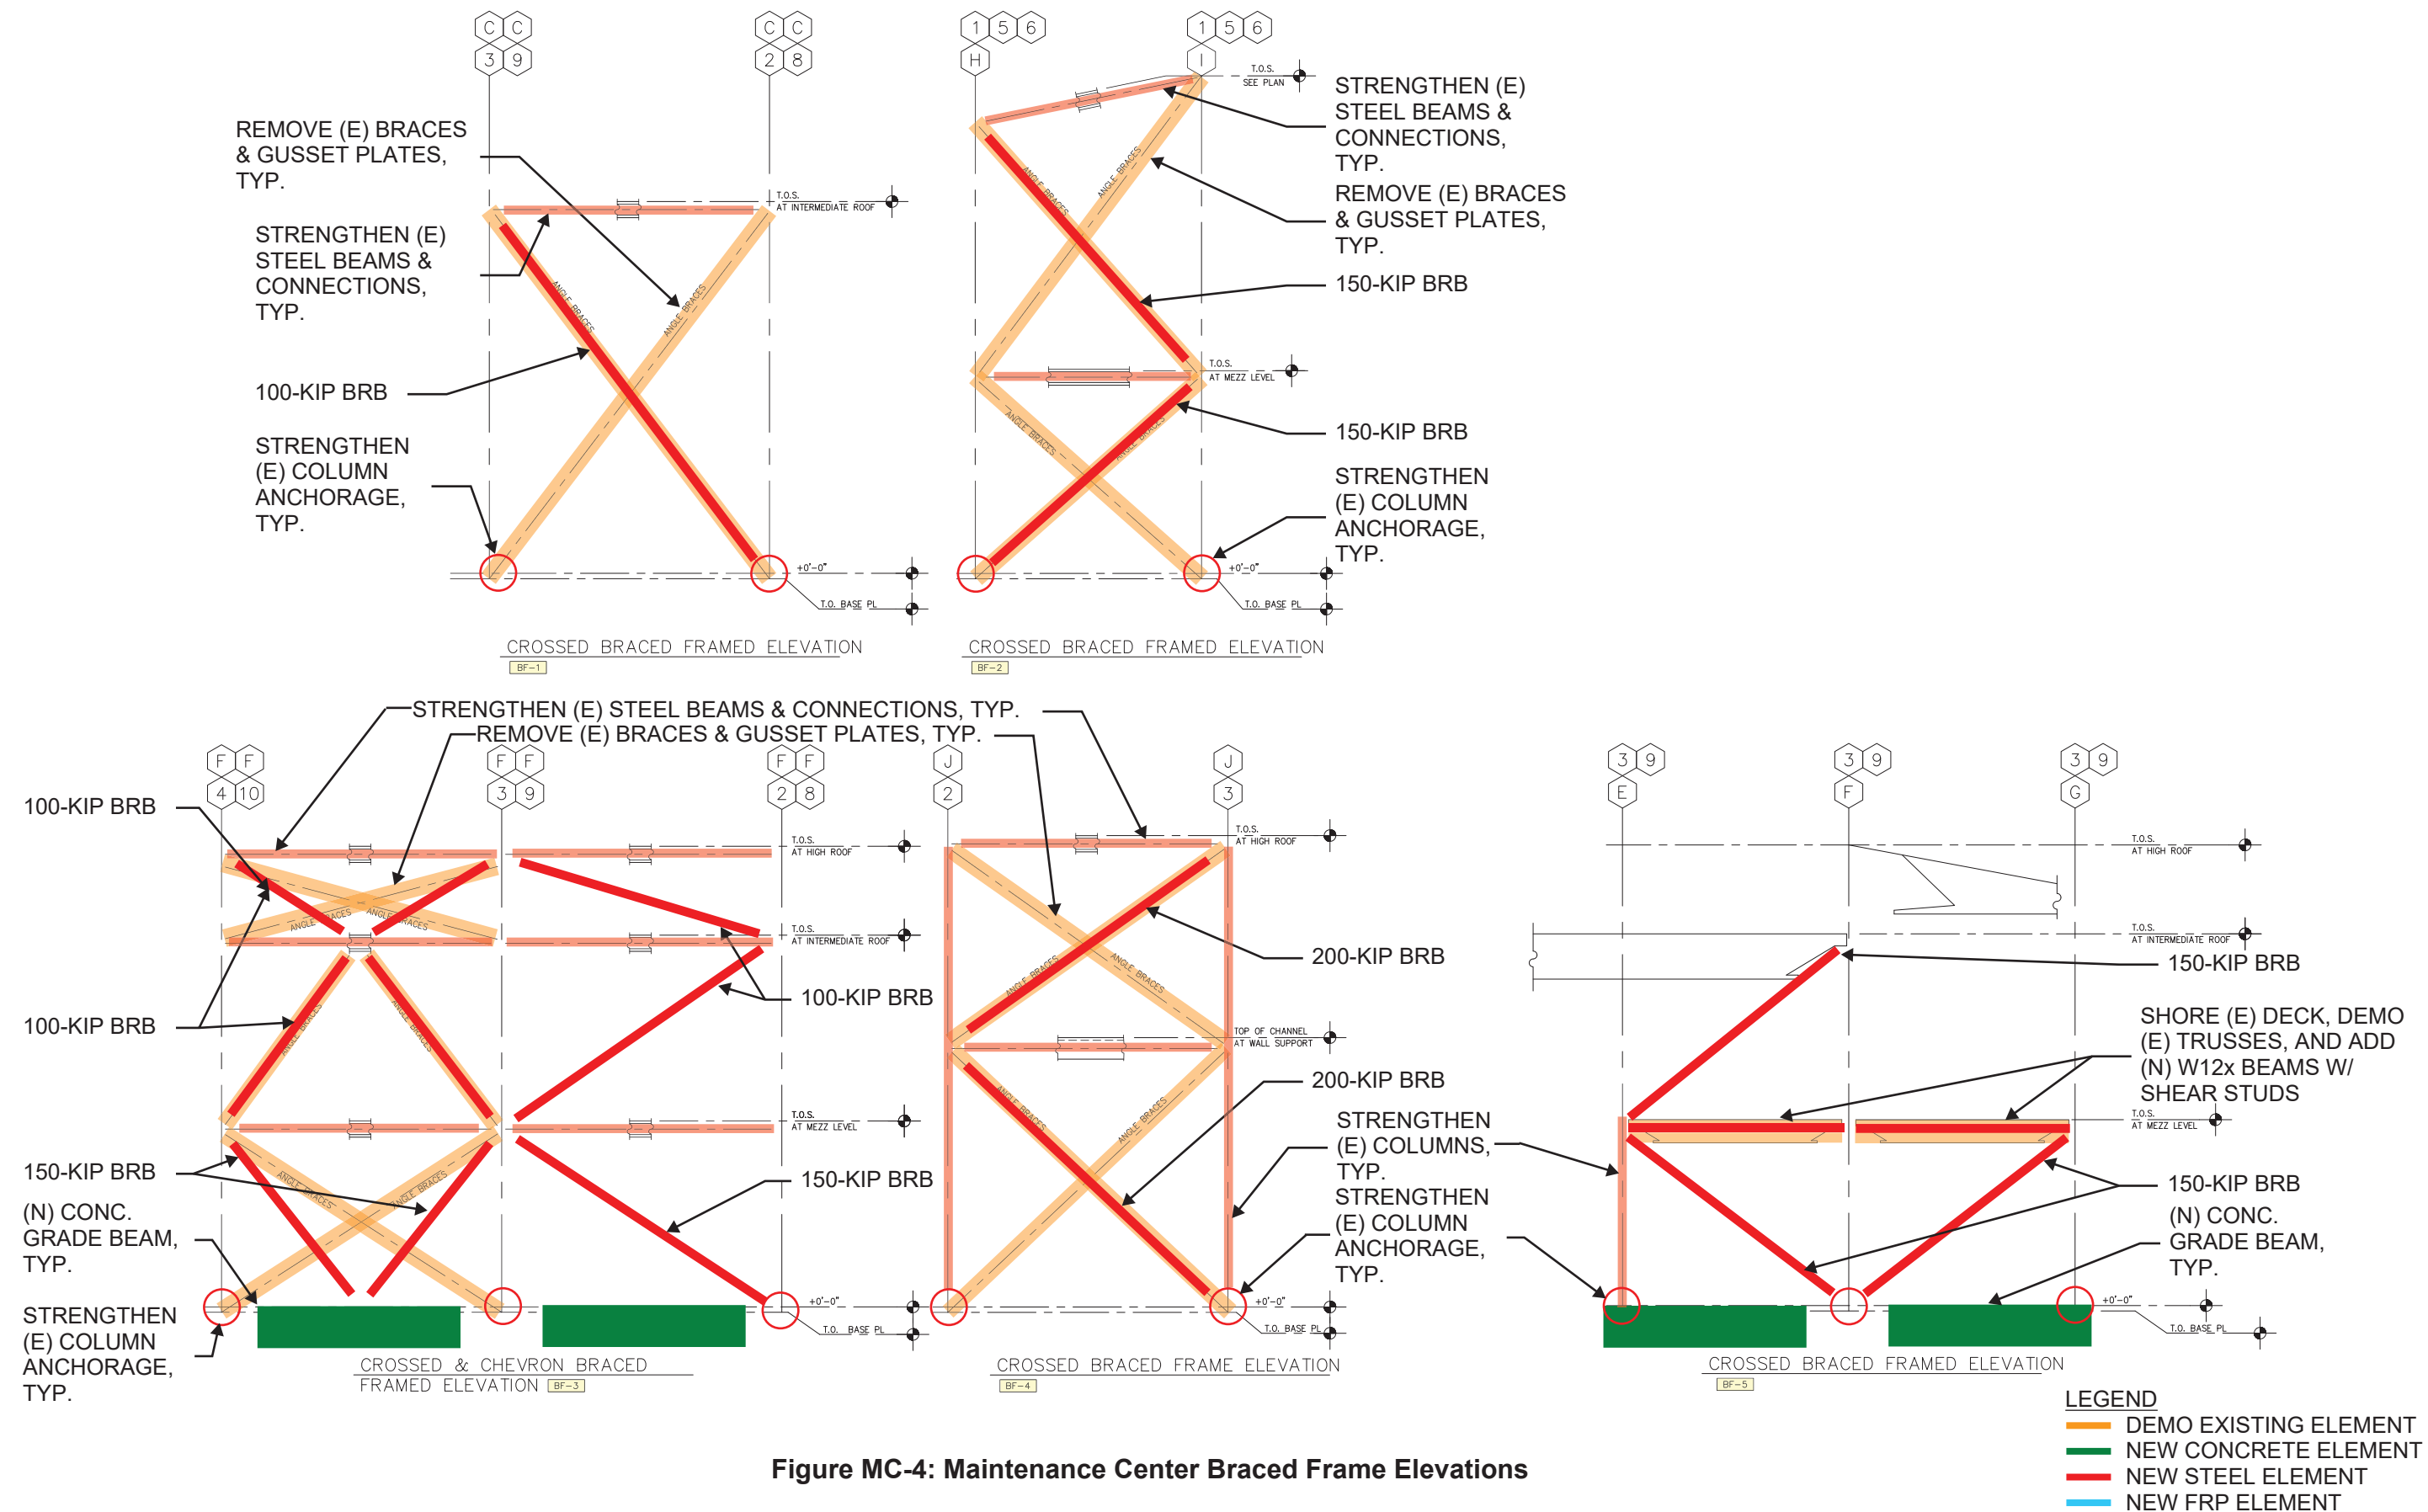

Figure MC-4: Maintenance Center Braced Frame Elevations
- A) REMOVE ALL (E) STEEL BRACES AND GUSSET PLATES.
- B) ADD BUCKLING RESTRAINED BRACES (BRB) & GUSSET PLATES, TYP. SEE FIGURES MC-4 & MC-5 FOR BRACED FRAME ELEVATIONS.
- C) ADD 30"x30" CONCRETE GRADE BEAM BETWEEN (E) PILE CAPS. PROVIDE EPOXY DOWELS INTO (E) SLAB ON GRADE @ 12" O.C. ON EACH SIDE OF GRADE BEAM.
- D) STRENGTHEN (E) STEEL COLUMN W/ WELDED STEEL PLATES.
- G) STRENGTHEN (E) PRECAST WALL JOINTS @ ALL WALLS SUPPORTING LOW ROOF (9 LOCATIONS). PROVIDE STEEL PLATES ON EACH SIDE OF PRECAST WALL W/ THRU-BOLTS @ 24" O.C.
- H) STRENGTHEN (E) PRECAST CONC. WALL BASE CONNECTION W/ 8"x24" CONCRETE CURB W/ EPOXY DOWELS INTO TOP OF (E) CONC. GRADE BEAM FACE OF (E) PRECAST CONC. WALL, TYP. SEE DETAIL 3/T-1 (SIM).
- I) SAWCUT VERTICAL SLOT IN (E) PRECAST WALL & FILL W/ COMPRESSIBLE MATERIAL.
- B) ADD BRB & GUSSET PLATES, TYP. SEE FIGURES MC-4 & MC-5 FOR BRACED FRAME ELEVATIONS.
- C) SHORE (E) MEZZANINE DECK, DEMO (E) STEEL TRUSS, & ADD (N) W12x STEEL BEAMS. ADD WELDED SHEAR STUDS TO TOP BEAM FLANGE @ 12" O.C.
- E) STRENGTHEN (E) STEEL BEAMS W/ WELDED STEEL PLATES, TYP.
- F) STRENGTHEN (E) STEEL BEAM CONNECTIONS, TYP.
- G) STRENGTHEN (E) STEEL CHANNELS W/ WELDED STEEL PLATES & ADD OUT-OF-PLANE WALL EPOXY WALL ANCHORS @ 24" O.C., TYP.
- J) ADD W12x STEEL BEAM BELOW (E) WELDING & PAINT SHOP CONCRETE-FILLED FLOOR DECK. ADD WELDED SHEAR STUDS TO TOP BEAM FLANGE @ 12" O.C.
- K) ADD 12"x30" CONCRETE BEAM ALONG TOPSIDE OF (E) WELDING & PAINT SHOP FLOOR DECK. CONNECT CONCRETE BEAM TO BOTTOM OF (E) STEEL CHANNEL W/ SHEAR STUDS @ 12" O.C., TO TOP OF (E) FLOOR DECK W/ (2) EPOXY DOWELS W/ 3" EMBED @ 6" O.C., AND TO (E) STEEL COLUMN @ GRIDLINE J-10 W/ (4) WELDED LONGITUDINAL REINFORCING BARS.
- L) STRENGTHEN (E) STEEL JOIST CONNECTIONS TO (E) CMU WALL, TYP.